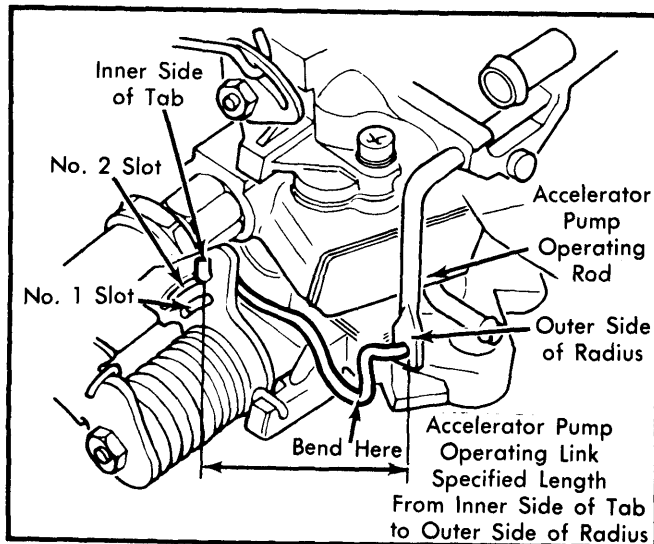

**Fig. 1 Adjusting Float Level**
- 1) With air horn removed, invert main body. Catch accelerator pump check ball and weight if not previously removed. Hold float hinge pin retainer in place with finger. See Fig. 1.